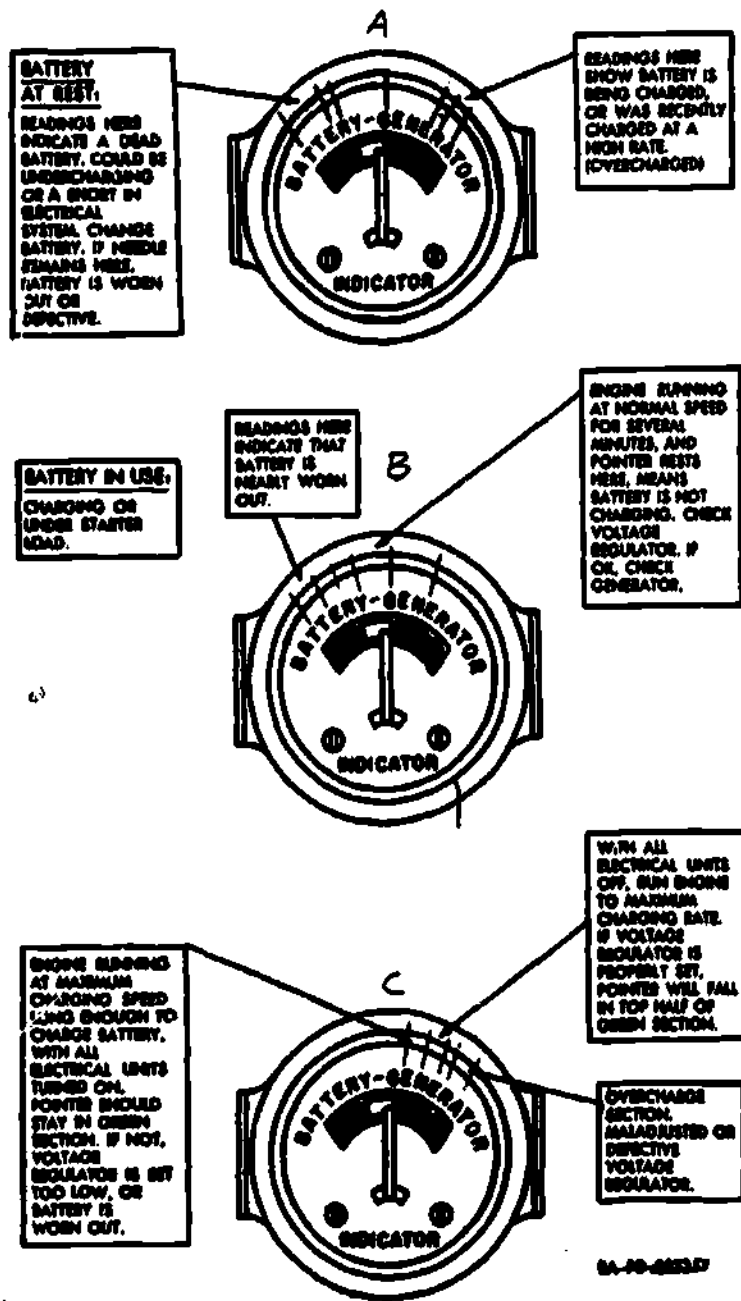

Fig 2-27. Battery-generator indicator operation.
f. **Instruments.** The instrument check is performed while the engine is warming up. During the warmup period you should monitor all the gages on the panel. When you start the engine for the warmup period, you should automatically insure that there is oil pressure. If the oil pressure gage does not reflect pressure, immediately stop the engine and determine the problem. As mentioned before, if you are not familiar with the particular vehicle you are operating, the fuel level should be visually checked by actually looking into the tank. Then when you check the fuel gage, you can determine if the gage is accurate. The battery-generator indicator needle should normally be somewhere in the first HALF of the green section. The notes shown in figure 2-27 give you a hint as to what you should look for when the battery is at rest (A, fig 2-27), when the battery is charging or under a starter load (B, fig 2-27), and when the engine has been running at maximum charging speed (C, fig 2-27). The critical indications for both a three and four color panel battery-generator indicator are shown in figure 2-28.